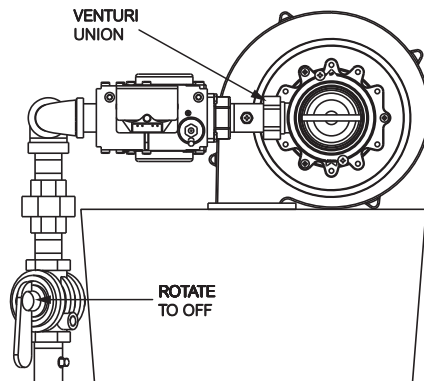

Fig. 50: Shut-off Valve & Venturi Location 198AR thru 398A
6. Loosen the Venturi union from the Manifold nipple (see Fig 50).